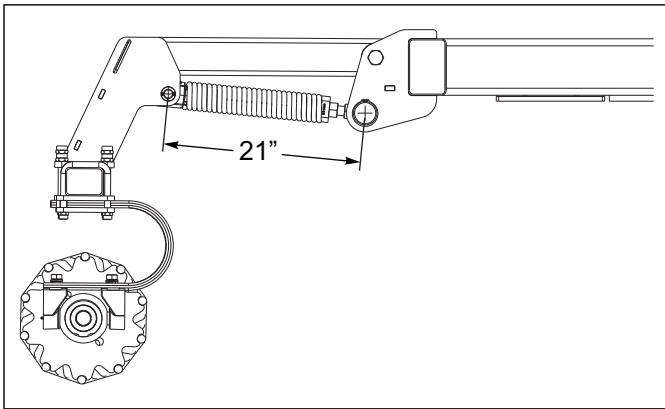

Figure 4-24: Conditioner Reel Setting
1. Initially set the depth of the conditioner reel with the bottom of the reel approximately 1" above the bottom of the disc gang blades. This will be approximately 21" spring centers (for 24" disc blades) (See **Figure 4-24.**)